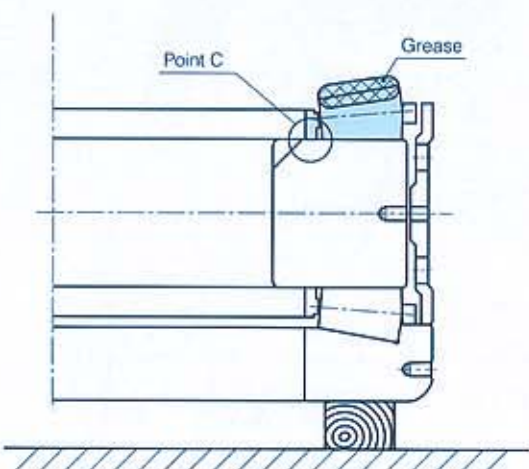

Fig. 3.42
- (5) Place the cage and rollers with matching symbol B on the inner ring. Confirm that the cage evenly contacts the inner ring raceway at (Point C) of Fig. 3.42. Apply the specified amount of grease over the roller periphery. (Fig. 3.42)